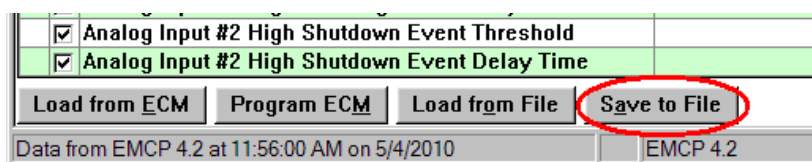

Figure 33: Save to File
- After any selection changes are completed, click "**Save to File**" from the bottom of the ECM Replacement screen to save the file. See Figure 33. Make sure to note where the file is stored.